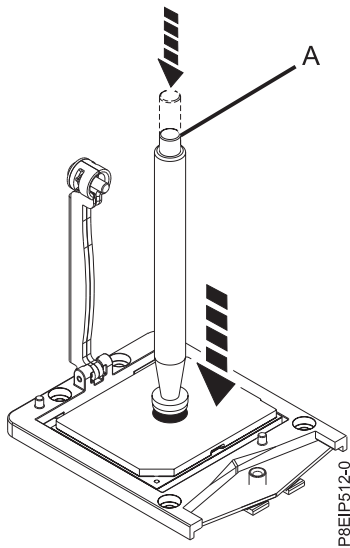

Figure 53. Lowering the removal tool onto the system processor module
3. Lower the vacuum pen tool onto the system processor module to install. Fully press the top of the pen (A) and hold the pen in the center of the system processor module as shown in Figure 53 on page 51. Release the top of the pen to fasten the pen onto the system processor module.